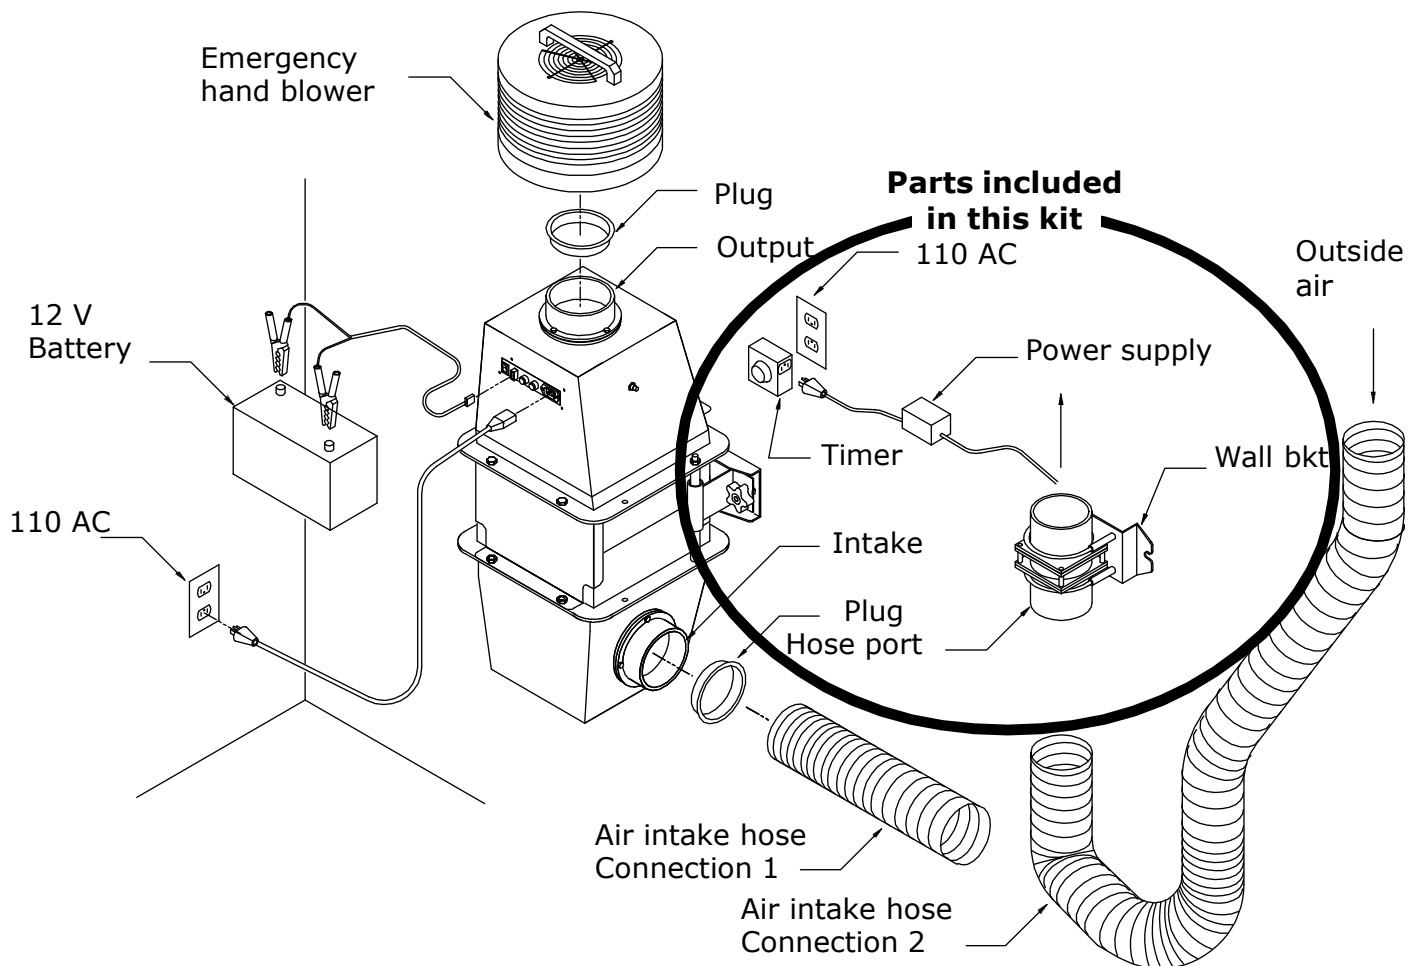

Figure M-6
3. Insert the hollow threaded rod through the hole and assemble the seals and threaded fasteners as shown in Figure M-6.